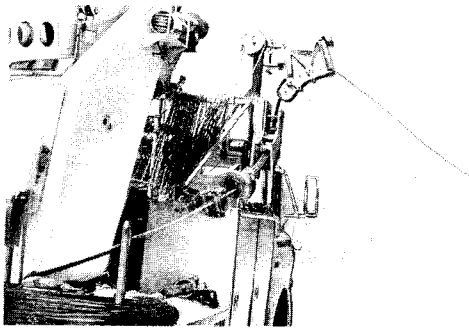

Fig. 14—Prelasher
7.01 A Telsta prelasher kit can be attached by means of two bolts on the field side of the T-40B truck body. A positive gear-driven lasher can lash cable to strand with a combined diameter of 1-1/2 inches. However, when this maximum size combination is prelash, extreme caution must be exercised with long span lengths so that tensions necessary to provide required ground clearances do not overload the boom. (Refer to 4.06.) Either "pull-in" or "drive-off" prelash operations can create high stresses that may be detrimental to the lift. (See Fig. 14.)